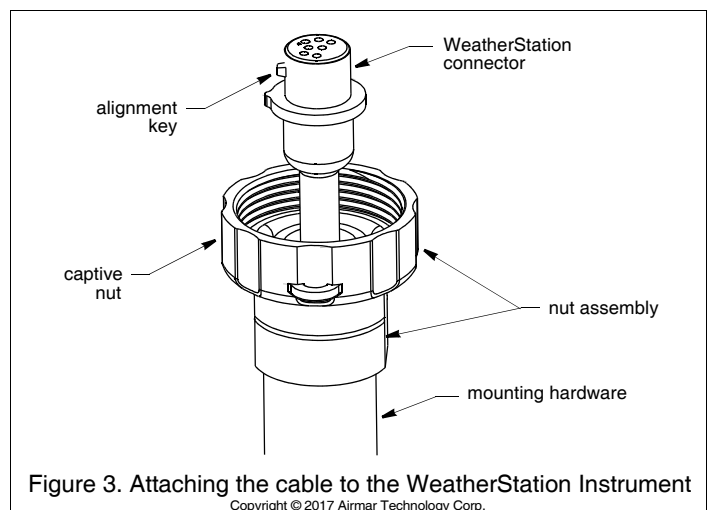

Figure 3. Attaching the cable to the WeatherStation Instrument
8. Remove the protective cover from the WeatherStation cable connector. (Save the cap to protect the connector, when the WeatherStation Instrument is removed.) Plug the connector into the bottom of the solar-radiation shield section of the WeatherStation Instrument. The alignment key on the connector fits into a notch in the base of the WeatherStation Instrument (Figure 3).